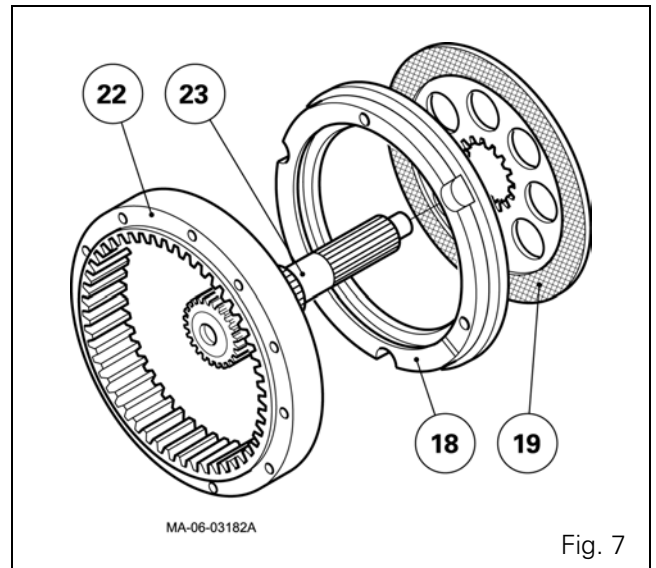

Fig. 7
19. Check that the disc (19) slides freely on the sun gear (23) (Fig. 7)
20. Refit the locating pin (27), the sun gear (23) and the brake disc (19).
22. Refit the brake plate (18) in the trumpet housing.